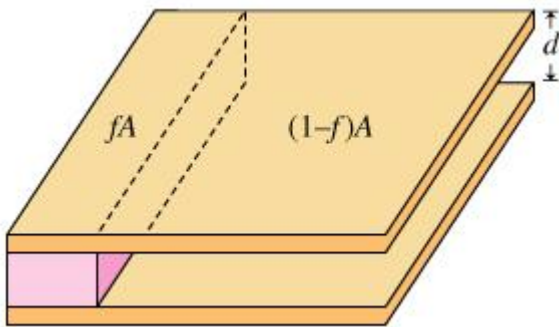

Figure 4
Part B proves that the configuration like Figure 4 divides the capacitor into two capacitors in parallel. For individual parts, the capacitance can be found by multiplying them with the division ratio  $f$  (formula 2 and 3). Summing the two leads us to formula 4. Using certain fractions,  $C_{theo}(f)$  can be calculated and be compared with  $C_{exp}(f)$ . The error will show the correctness of the general formula, formula 4.
- a. Insert material as in figure 4 by  $f =$  next value in table 3.x where x in {1, 2, 3} respectively.